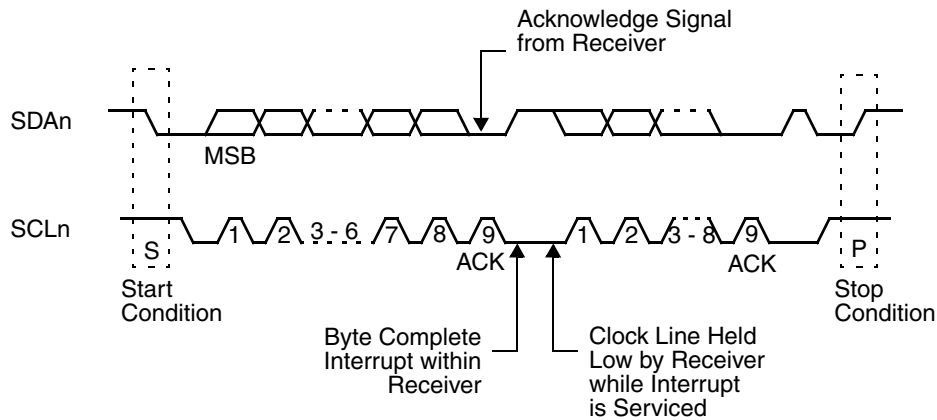

Figure 39. SMBus Data Transaction
- Acknowledge signal - sent by the receiving device; see Figure 39